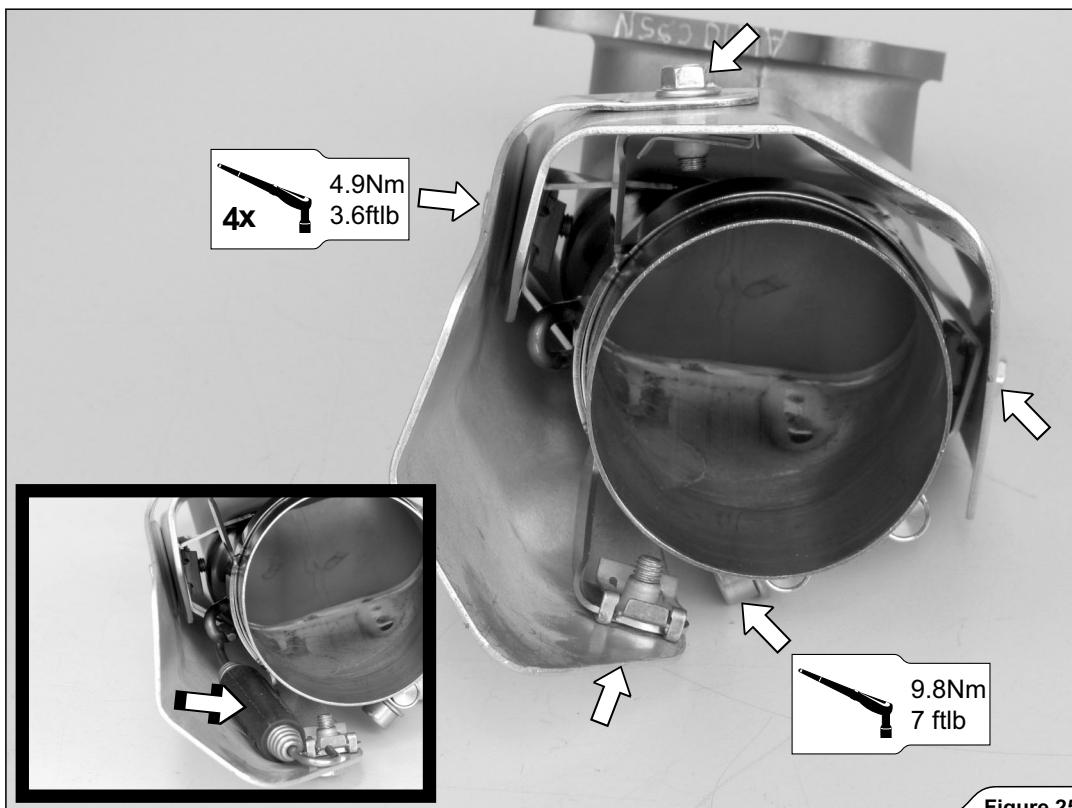

Figure 25
- CAUTION:** make sure to correctly assemble the spacers (Figure 25)!